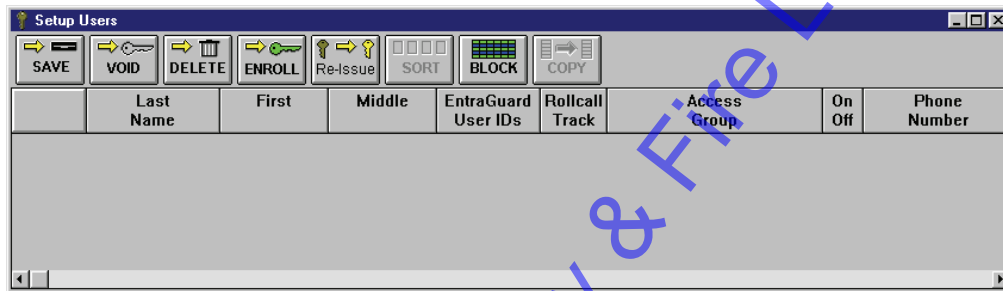

Figure 10-12: Setup Users Spreadsheet Window - EntraGuard User IDs Only
- To enroll User IDs, click on the Setup ⇒ Users pull-down menu or click on the  tool bar button. These two icons  are added to the tool bar and the Setup Users spreadsheet window appears (see Figure 10-12 on page 13 of this section). If the setup users spreadsheet window is not visible, click on the  tool bar button.